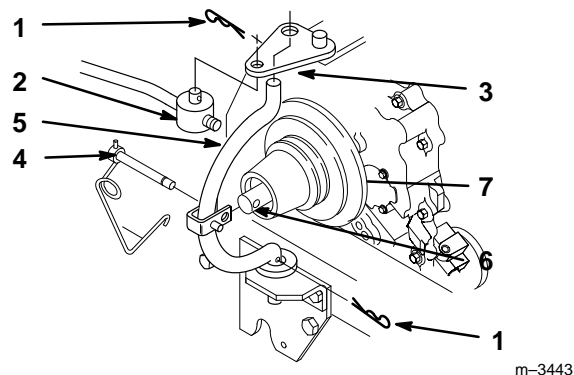

Figure 7
10. Remove hairpin cotters from trunnion and bottom of yoke (Fig. 7).
11. Unlatch and remove locking clevis pin that secures yoke assembly to clutch shaft. Pivot yoke out and forward to remove from clutch shaft and engagement plate (Fig. 7).
12. Place belt in inside pulley groove (Fig. 7).
13. Assemble yoke and engagement plate and attach locking clevis pin, trunnion and hairpin cotters to secure (Fig. 7).